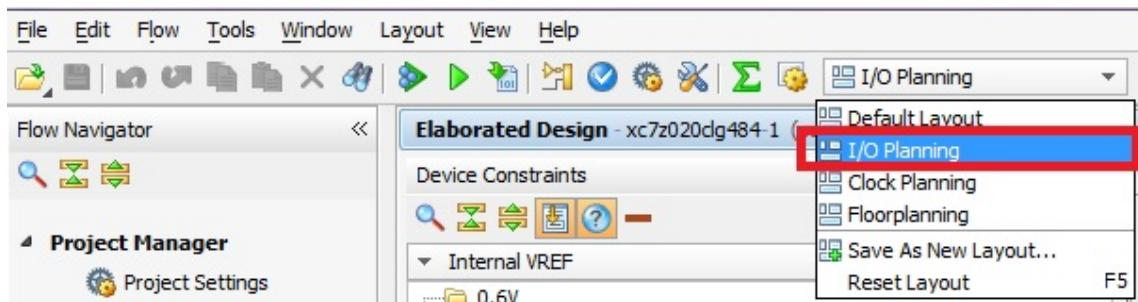

Figure 3-8: I/O Planning Selection
27. Select **I/O Planning** from the drop-down menu, as shown in Figure 3-8 below, to display the **I/O Ports** tab.